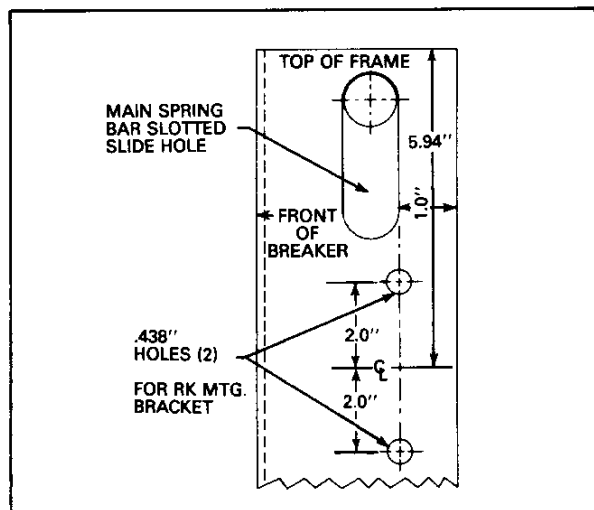

Fig. 4 Middle Frame Right Side View
\*Note: Kits contain more hardware than required due to multi-purpose use, check right side and left side views Figs. 4 to 9 for number and size of hardware.
1. Viewing the breaker from the right side locate the main spring slotted slide hole which is 1" x 3" and located on the side of the front middle frame. Using the inner edge of the hole as a guide scribe a line 5.94 inches from the top of the frame (See Fig. 4) to locate a centerline.
2. From this centerline locate a point 2.0 inches above and 2.0 inches below, drill two .438 holes, Fig. 4.